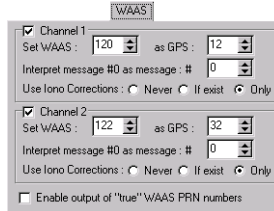

Figure 2-25. WAAS Tab
- The third tab, as its name implies, deals with the WAAS/EGNOS satellites (Figure 2-25).